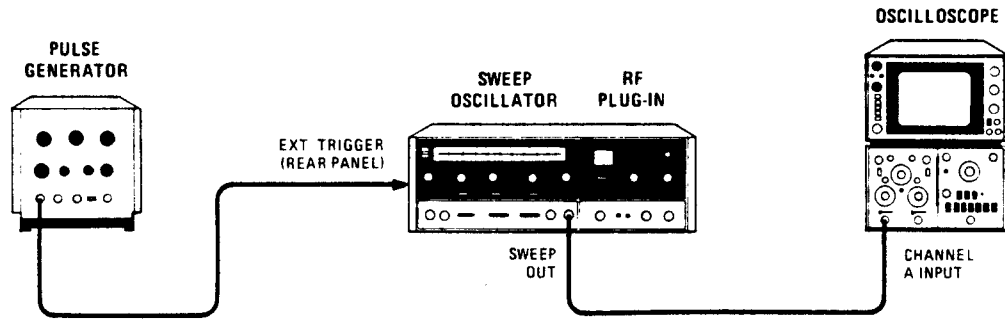

Figure 4-13. Triggered Sweep Test Setup
- a. Connect equipment as shown in Figure 4-13.